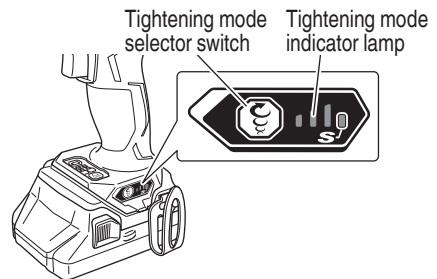

Fig. 16
10. Tightening mode selector function (Fig. 16)